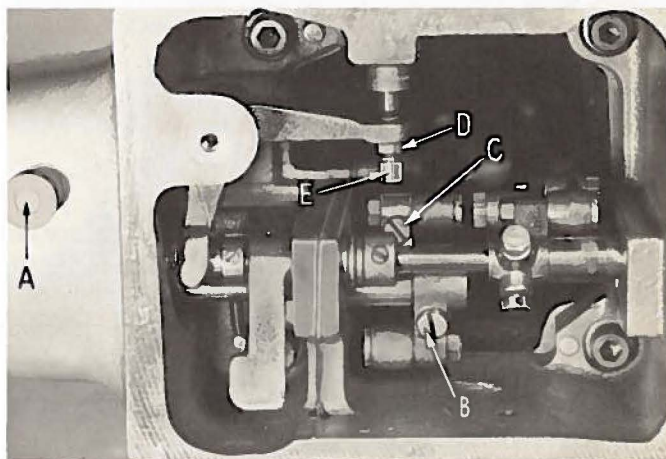
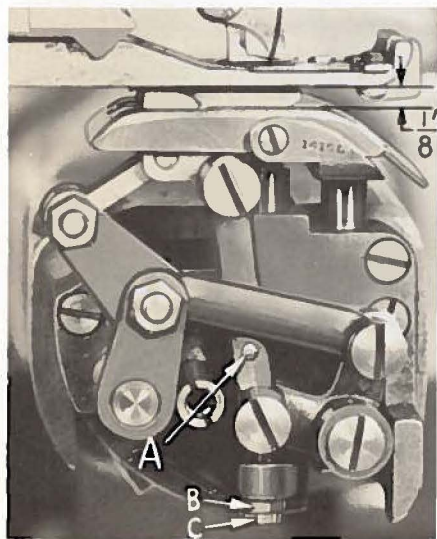
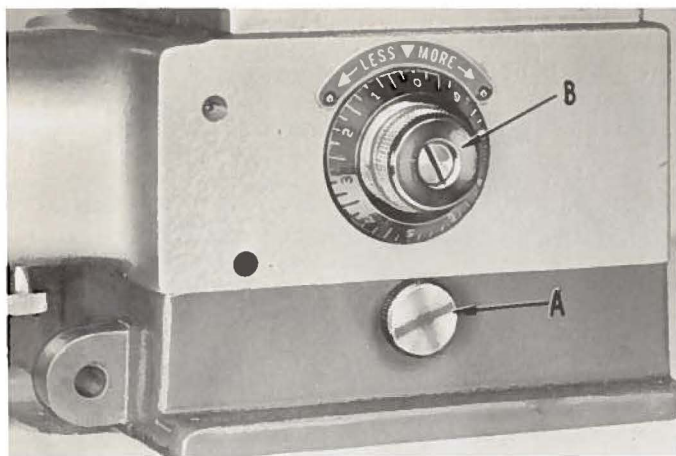
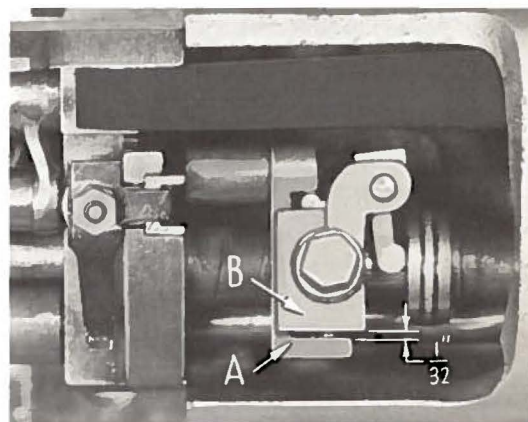

Fig. 11
Fig. 12
Fig. 13
Fig. 14
The feed plate pressure is adjusted at the factory. If it becomes necessary to change the pressure, turn knurled screw (A, Fig. 11) clockwise for more pressure and counterclockwise for less.
Turn the handwheel in operating direction until the feed point reaches its highest position and the feed plate reaches its lowest position. At this point, there should be $\frac{1}{8}$ inch space between the top of the feed plate and the bottom of the presser foot (Fig. 12). To obtain this adjustment, loosen the machine base locking screw (A, Fig. 13) and lay the machine on its back. Then, loosen screw (B, Fig. 11) and hold link (A, Fig. 12) so that the feed point is pressed up against the bottom of the presser foot. Turn the handwheel in operating direction until the feed point reaches its most forward position, and retighten screw (B, Fig. 11).
Turn the handwheel in operating direction until the feed point first touches the presser foot. At this point, the front edge of the feed point should be aligned with the front edge of the knurling on the feed plate. To make this adjustment, loosen screw (C, Fig. 11), and by means of link (A, Fig. 12), move the feed point forward or backward as required. Retighten screw (C, Fig. 11). If, in this adjustment, the feed point has to be moved an appreciable distance, repeat the adjustment "Setting The Feed Point Height" in the previous instructions.
The height of the plunger is adjusted by turning the knob (B, Fig. 13) clockwise to raise the plunger and counterclockwise to lower it. To provide for the maximum plunger adjustment, there should be $\frac{1}{32}$ inch clearance between plunger crank (A, Fig. 14) and the plunger block (B) when the adjusting knob (B, Fig. 13) is turned clockwise as far as it will go. Note that there are pins which stop the knob (B) after each complete revolution. The knob may be pulled out toward the operator to lift it over the stop. The knob can make three complete revolutions. To make the $\frac{1}{32}$ inch adjustment, turn the knob clockwise as far as it will go. Loosen locknut (D, Fig. 11) and turn screw (E) in the required direction. Retighten nut (D). Setting is correct when the needle, on its stroke, to the right, just clears
the top of the plunger, with the adjusting knob in the maximum clockwise position. If after initial setting, further adjustment of height is necessary, it can be accomplished by turning nut (B, Fig. 12) and locknut (C) up or down as required. Check the adjustment so that the needle does not strike the plunger.